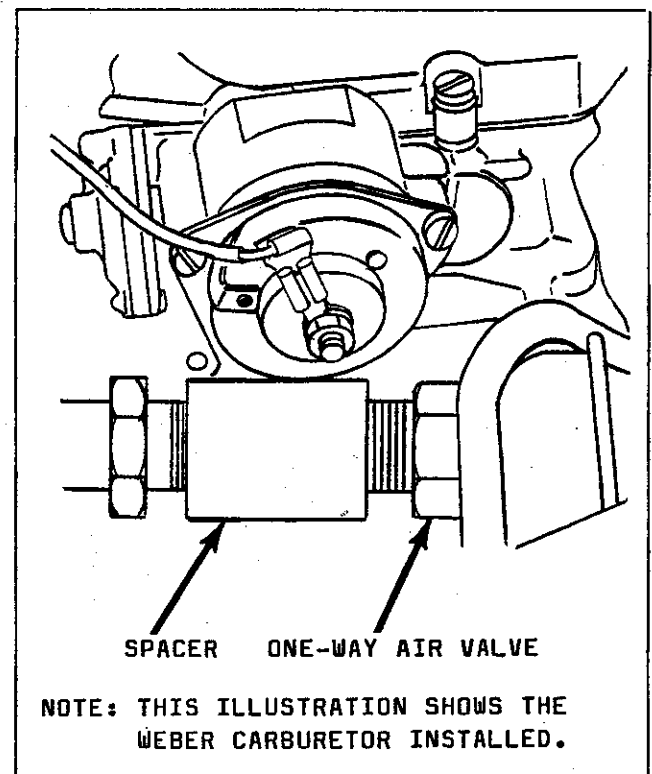

Figure 4
15. Remove one-way air valve and hose. Fit spacer and threaded adaptor as shown in figure 4. Shorten the air hose 1-1/2 inches. Refit hose and valve assembly as shown. If necessary, reposition air valve for clearance with choke solenoid.